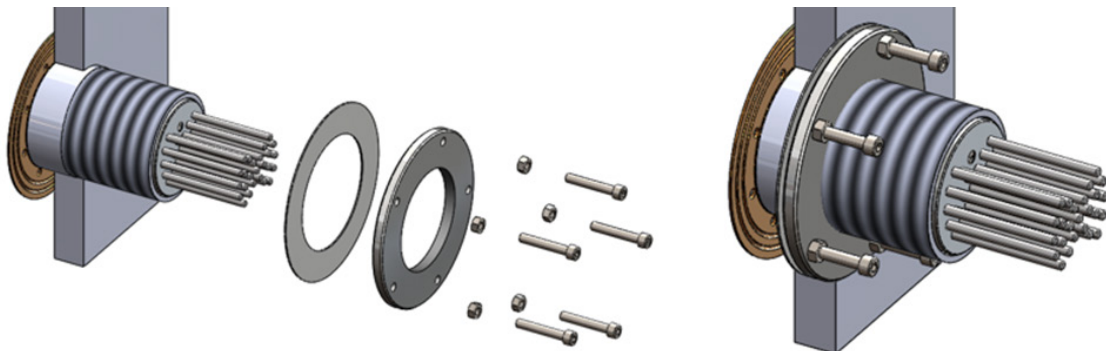

Fig.4.2
2. Insert the light body into the hull, feeding the stem and cable through first and seat into place. Press the light hard into the hull and twist slightly to spread the sealant around behind the light to ensure good adhesion. (See Fig.4.2).
3. Thread the washer and locking ring onto the stem of the light body. The stainless steel compression washer does not need to be flat to the hull. An undulating surface can be taken up with the washer. The locking ring should also not sit flat against the washer. Depending on the angle of the hull inside the boat the locking bolts will be able to take up an uneven surface. DO NOT over-tighten locking bolts, you will fracture the light body and this will not be covered under warranty. (See Fig.4.2).